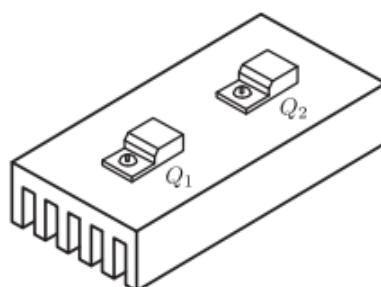

Fig. 2 – TO-220 die Package
Ques 2. – Figure 2 shows two identical devices, Q1 and Q2, mounted on a common heat sink. The devices are in TO-220 packages and have a thermal resistance from junction to case of $R_{\theta jc} = 1.2^{\circ}\text{C}/\text{W}$. The interface between the case and sink has a thermal resistance of $R_{\theta jc} = 0.20^{\circ}\text{C}/\text{W}$, and the thermal resistance between the sink and ambient is $R_{\theta SA} = 0.8^{\circ}\text{C}/\text{W}$.
- (a) Draw the static thermal model for the thermal system of Fig. 2.